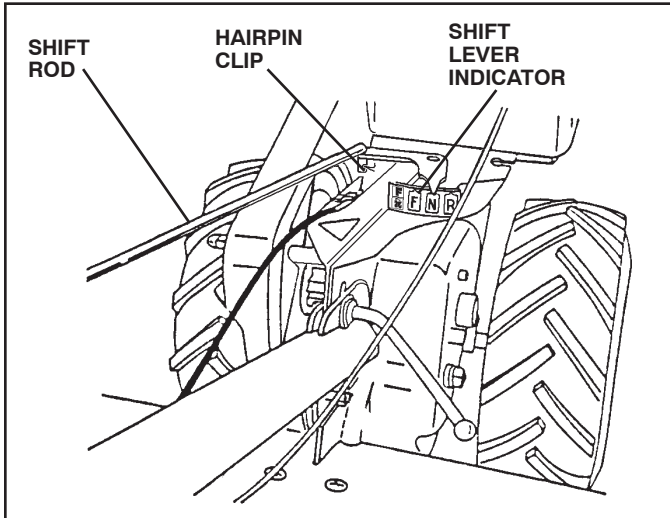

Fig. 6
## CONNECT SHIFT ROD (See Fig. 6)
- Make sure shift lever indicator is in “N” position (See Fig. 6)